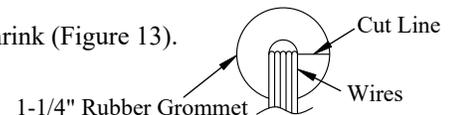

Figure 14: Assembled grommet.
11. Cut each 1-1/4" grommet from the inner hole outward (Figure 14).
12. Place each 1-1/4" grommet around wires (Figure 14)